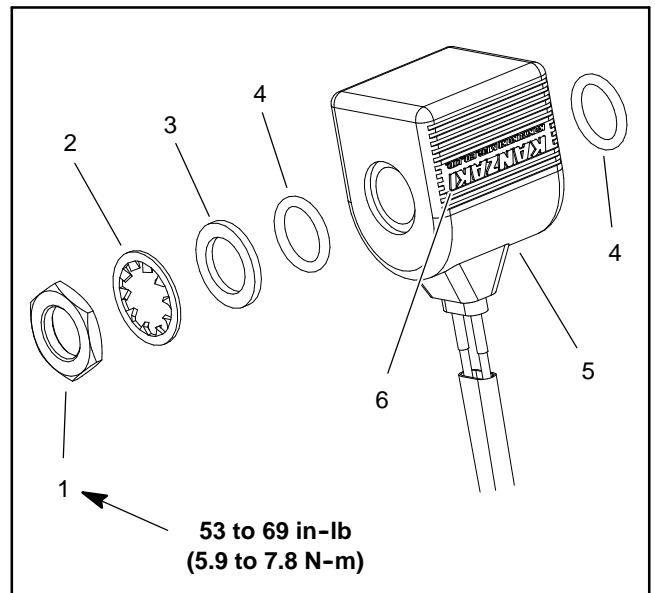

Figure 77
5. Slide the coil assembly from the solenoid valve stem (Fig. 77). For assembly purposes, note that "KANZAKI" molded into the coil has the "I" nearest the nut location as coil direction is important for proper solenoid operation.
1. Slide new coil assembly, seals and washers onto the solenoid valve stem. Make sure to properly position seals and washers (Fig. 77). Coil should be installed so the "KANZAKI" molded into the coil has the "I" nearest the nut location.